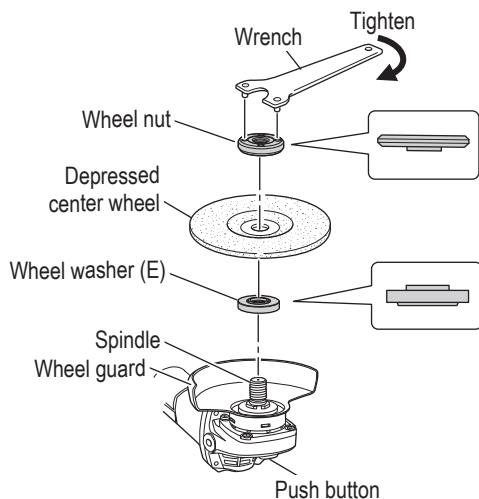

Fig. 18
5. Thoroughly check that the depressed center wheel is free of cracks, splits and other abnormalities before mounting. Make sure it is firmly clamped and has been properly mounted. Refer to "ASSEMBLY AND DISASSEMBLY DEPRESSED CENTER WHEEL" (Fig. 18)
- (1) Turn the disc grinder upsidedown so that the spindle is facing upward.
- (2) Align the oval-shaped indentation of the wheel washer (E) with the notched part of the spindle, then attach them.
- (3) Fit the protuberance of the depressed center wheel onto the wheel washer (E).
- (4) Screw the wheel nut onto the spindle.
- (5) While pushing the push button with one hand, lock the spindle by turning the depressed center wheel slowly with the other hand. Tighten the wheel nut by using the supplied wrench as shown in Fig. 18.